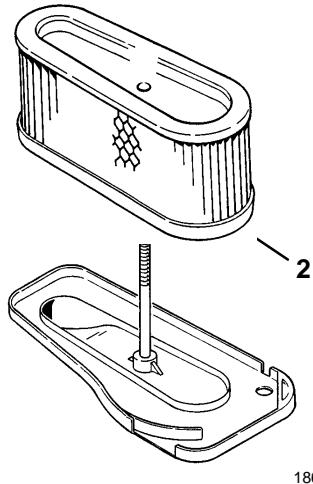

Figure 24
4. Unscrew the rubber nut and remove the paper element (Fig. 24).
1. Slide the air cleaner assembly onto the long rod. Now screw the rubber nut finger-tight against the air cleaner (Fig. 24).